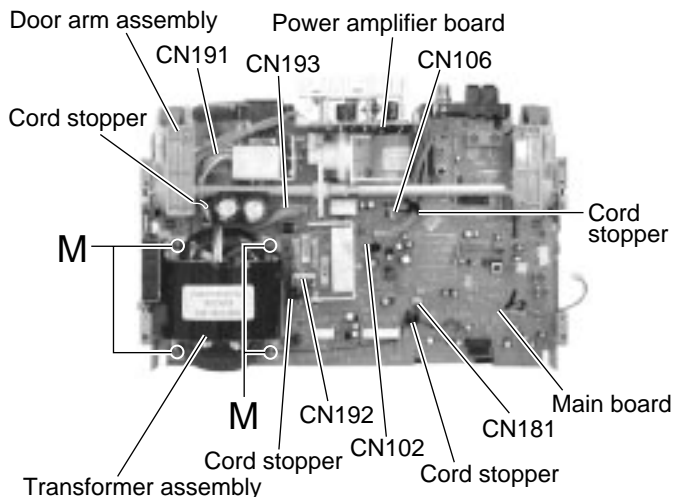

Fig.21
■ Removing the power amplifier board (See Fig.21 and 22)
■ Removing the transformer assembly (See Fig.21)